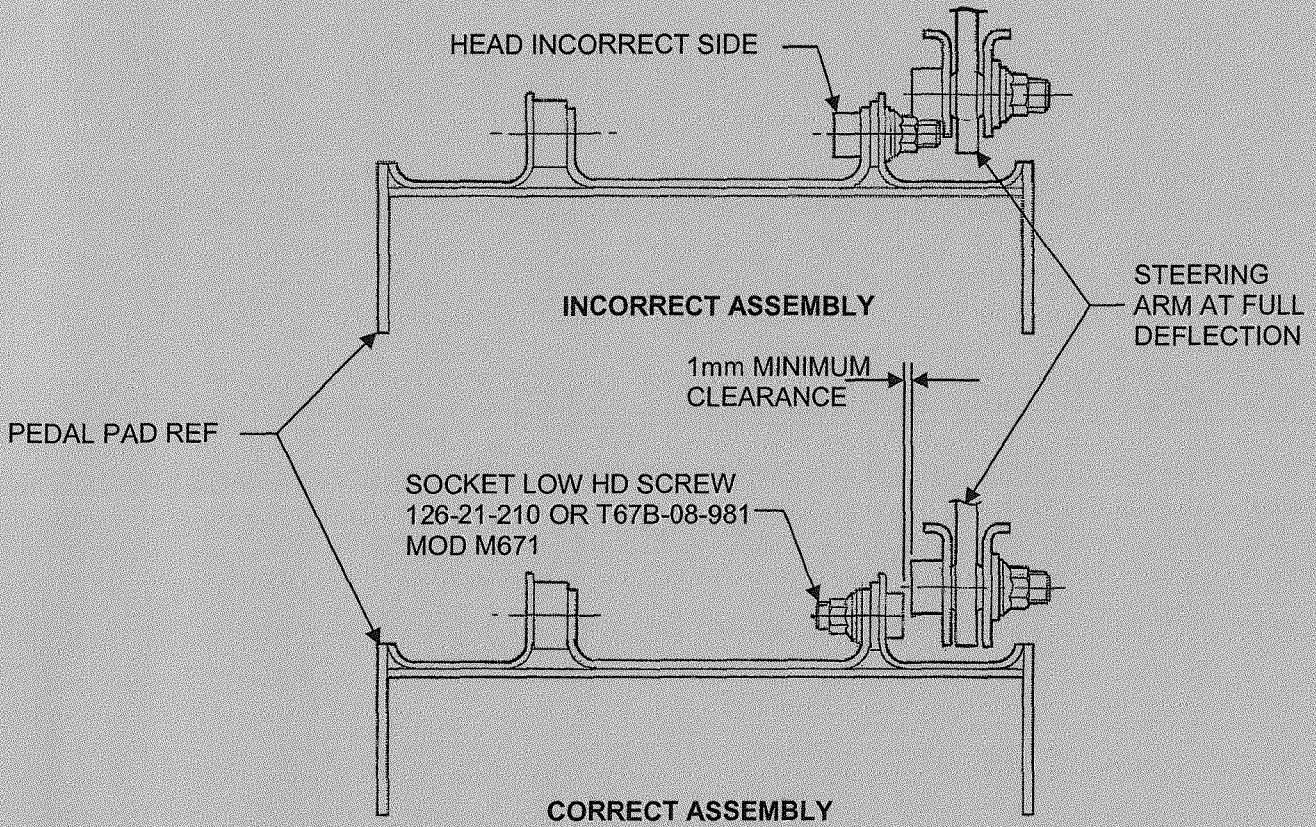

FIGURE 4
15. Ensure Pedal no 2 Pedal pad pivot bolt head height is less than 5mm and orientated as shown in Figure 4. A minimum of 1mm clearance is required, if not fit part no 126-21-210 or T67B-08-981, this invokes Mod M671 "Introduction of Low Head Rudder Pedal Pad Pivot Bolts – Pedal No. 2".